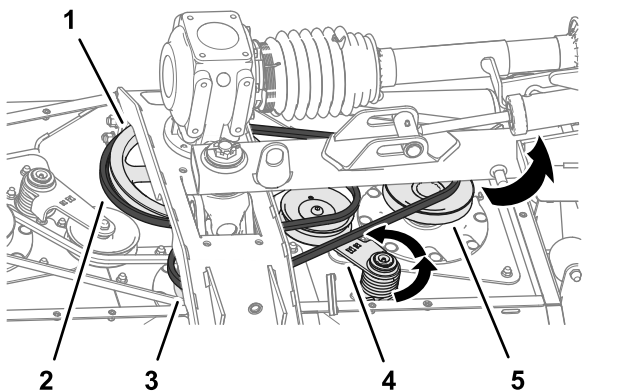

Figure 65
2. Use a breaker bar or similar tool to rotate the belt tensioner for the long belt counterclockwise and slip the belt off the tensioner pulley (Figure 65).
- Slip the long belt off the drive pulley, center-spindle pulley, and right-spindle pulley (Figure 65).